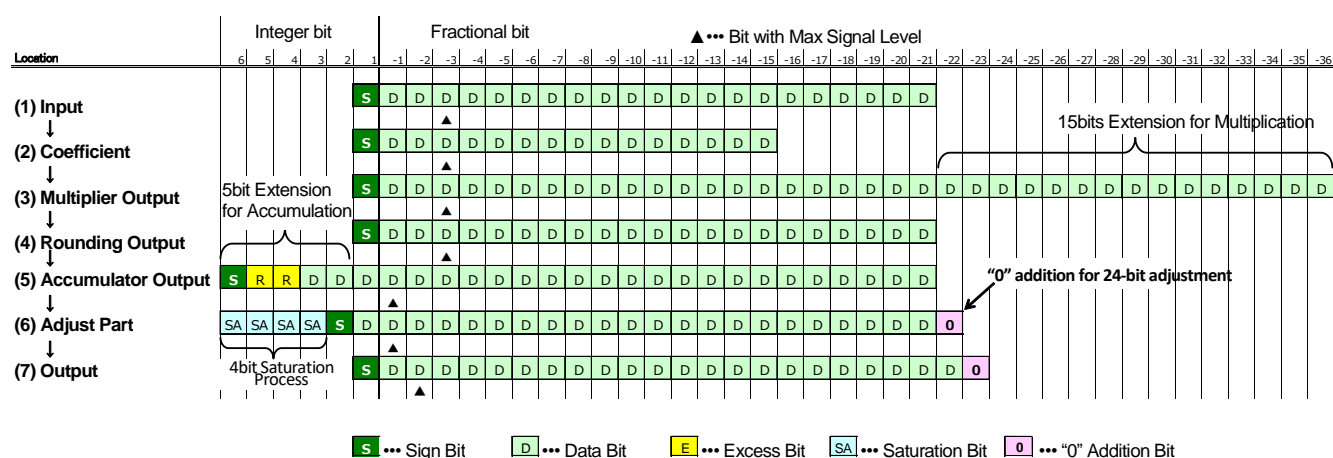

Figure 31. Programmable FIR Filter Calculation Example 1
- (1) Input bit length is (1.21). The maximum input signal level of programmable FIR filter is -13dBFS at full scale range (Figure 15). Therefore, the maximum signal is at -3 Fractional bit (▲) in Figure 31.
- (2) Coefficient written by register setting. It has (1.15) bit length.
- (3) Multiplication result of (1) and (2). Input signal is extended 15 bits for the bit length of the maximum coefficient.
- (4) Round the data off to 21 bits to reduce the circuit size.
- (5) Higher 5 bits are extended for accumulation. In this case, there are 2 excess bits although it is extended 5 bits according to the absolute maximum total coefficient. Since the filter DC gain is 4 times larger (+12dB), the maximum signal bit is shifted 2 bits to the left.
- (6) Execute saturation process. In this case, 4-bit saturation process is executed to make the maximum signal level bit is higher second bit as total gain of the digital filter should be 0dB (-7dBFS). Bit length becomes 23-bit by executing 4-bit saturation process. Therefore, add "0" data to the LSB for 1 bit to make the data 24 bits.
- (7) At final output, the decimal point is shifted 1-bit to the left and the data becomes (1.23). It expresses that the input signal is increased by 6dB, and the digital filter total gain is 0dB (-7dBFS).